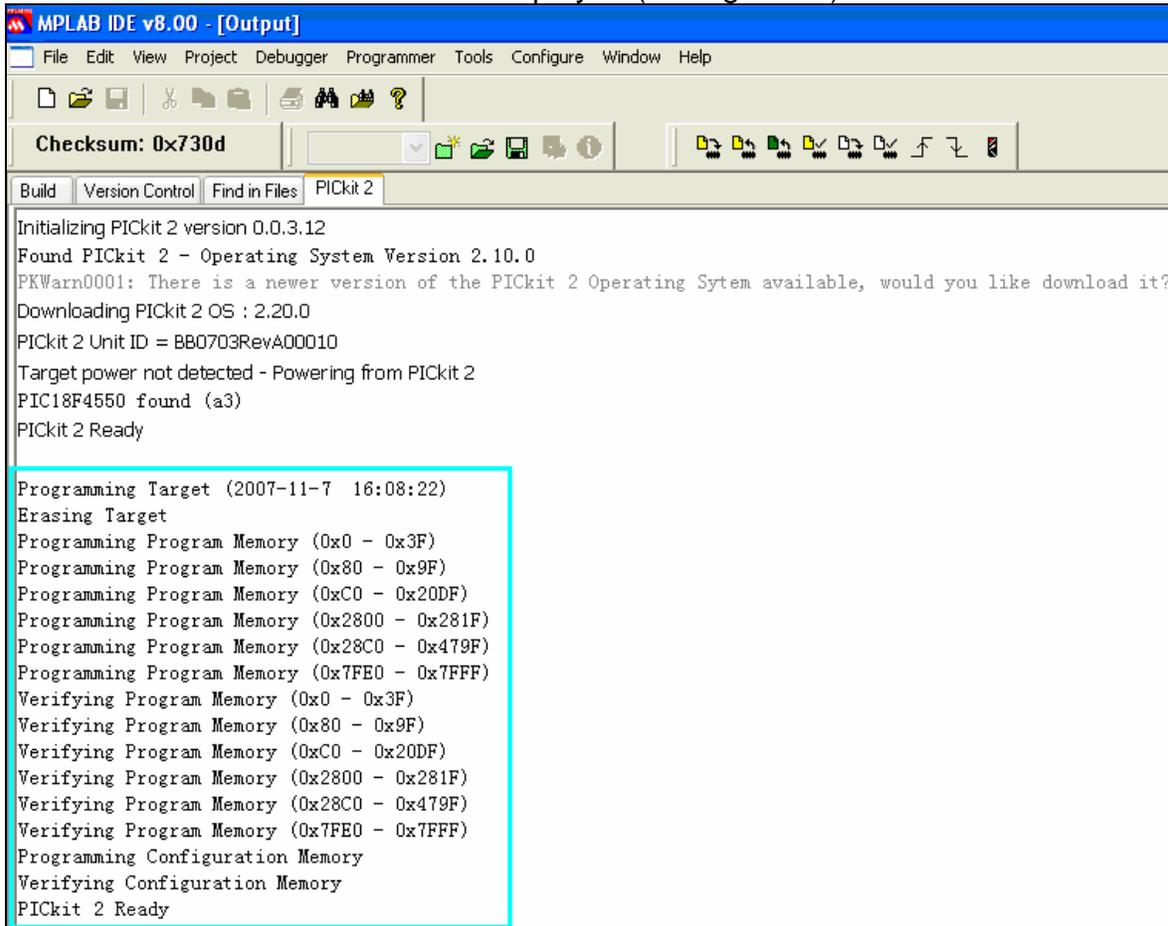

Figure 15
- 7. Click program icon, the hex file will be burned into the target chip. And similar message as shown in the blue frame will be displayed (see figure 15).